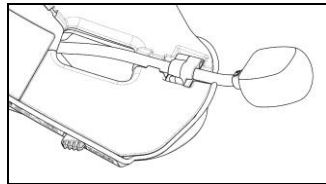

Fig. 15
- Close the clip. Make sure that the microphone side with the letter “n” is facing the inside of the helmet (Fig. 15).